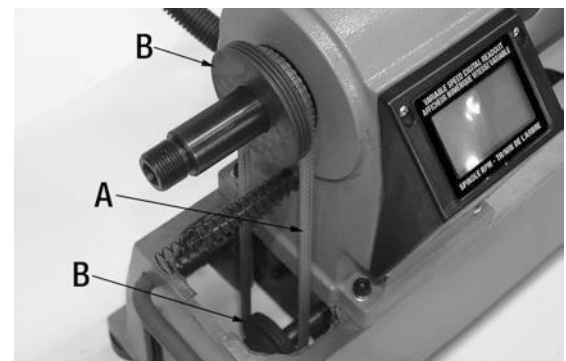

FIGURE 6
The drive belt (A) Fig.6 gets installed on one of the 2 steps of the spindle and motor pulleys, the position of the belt on the pulleys will determine if you get the low range or high range variable speeds.
2. Position the belt (A) Fig.6 on step 1 or 2 of the pulleys (B), refer to illustration below for belt positioning and speed range selection.